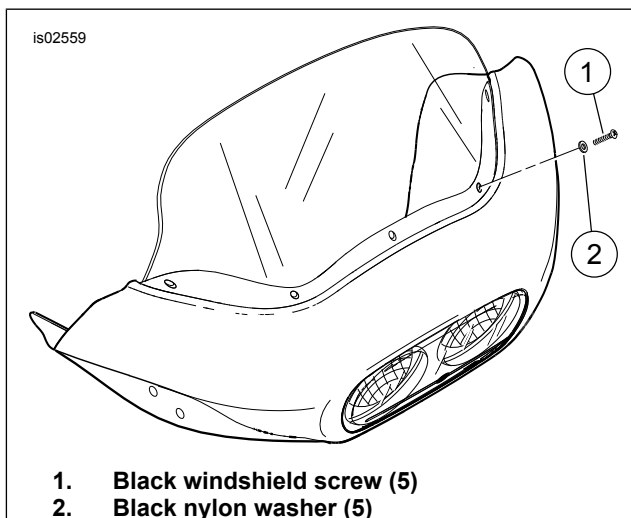

Figure 1. Windshield Attaching Screws
1. See Figure 1. Remove one of the outside screws (1) and nylon washers (2) fastening the windshield to the outer fairing. Discard the screw but save the washer.